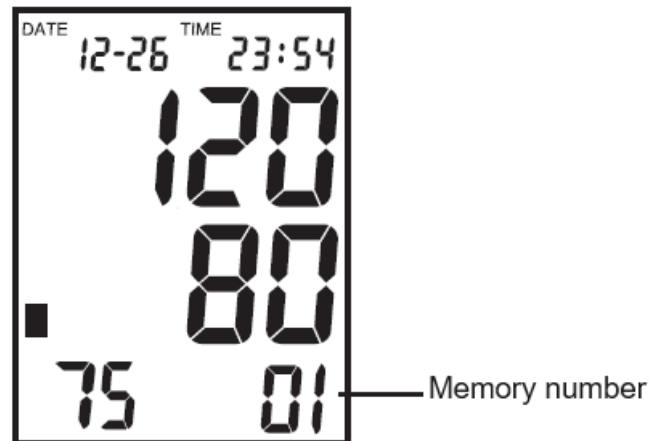

Figure 3.4.1-1
- 2) Press the “MEMORY” button, LCD will show how many results it has, and then the latest result will be displayed, which is 01 for memory number. See **Figure 3.4.1-1**. Continuously press the “MEMORY” button; the memory number will increase by one.